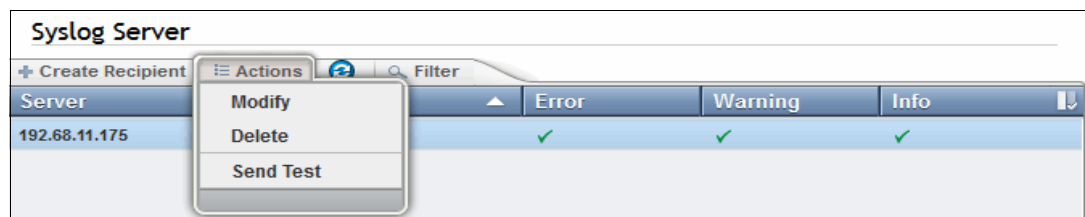

Figure 4-33 Syslog Server Notifications Actions menu
3. After the syslog server is set, you can use the **Actions** menu, as shown in Figure 4-33. You can modify, delete, or send a test to the IP address of a syslog server.